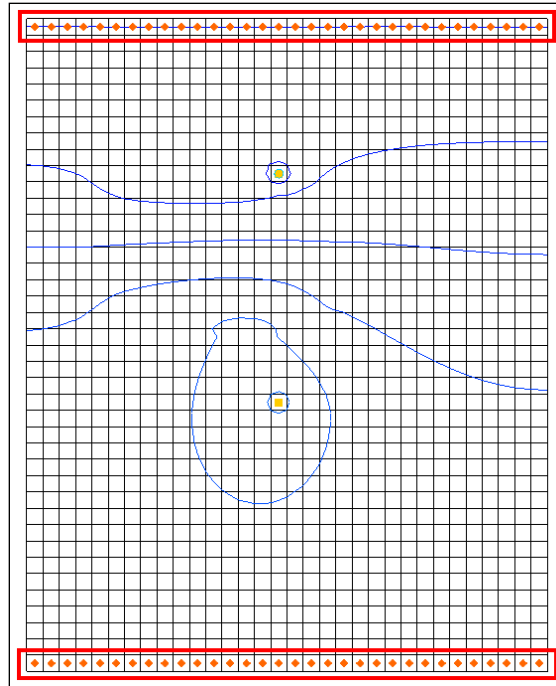

Figure 3 Selecting cells on the model boundary
9. Using the **Select Cells**  tool, select all cells with the constant head BCs (orange diamond symbols) along the top and bottom boundaries of the grid. Do this by dragging a box around the cells at the top of the model and then holding down the *Shift* key and dragging a second box around the cells at the bottom of the model (see red boxes in Figure 3).